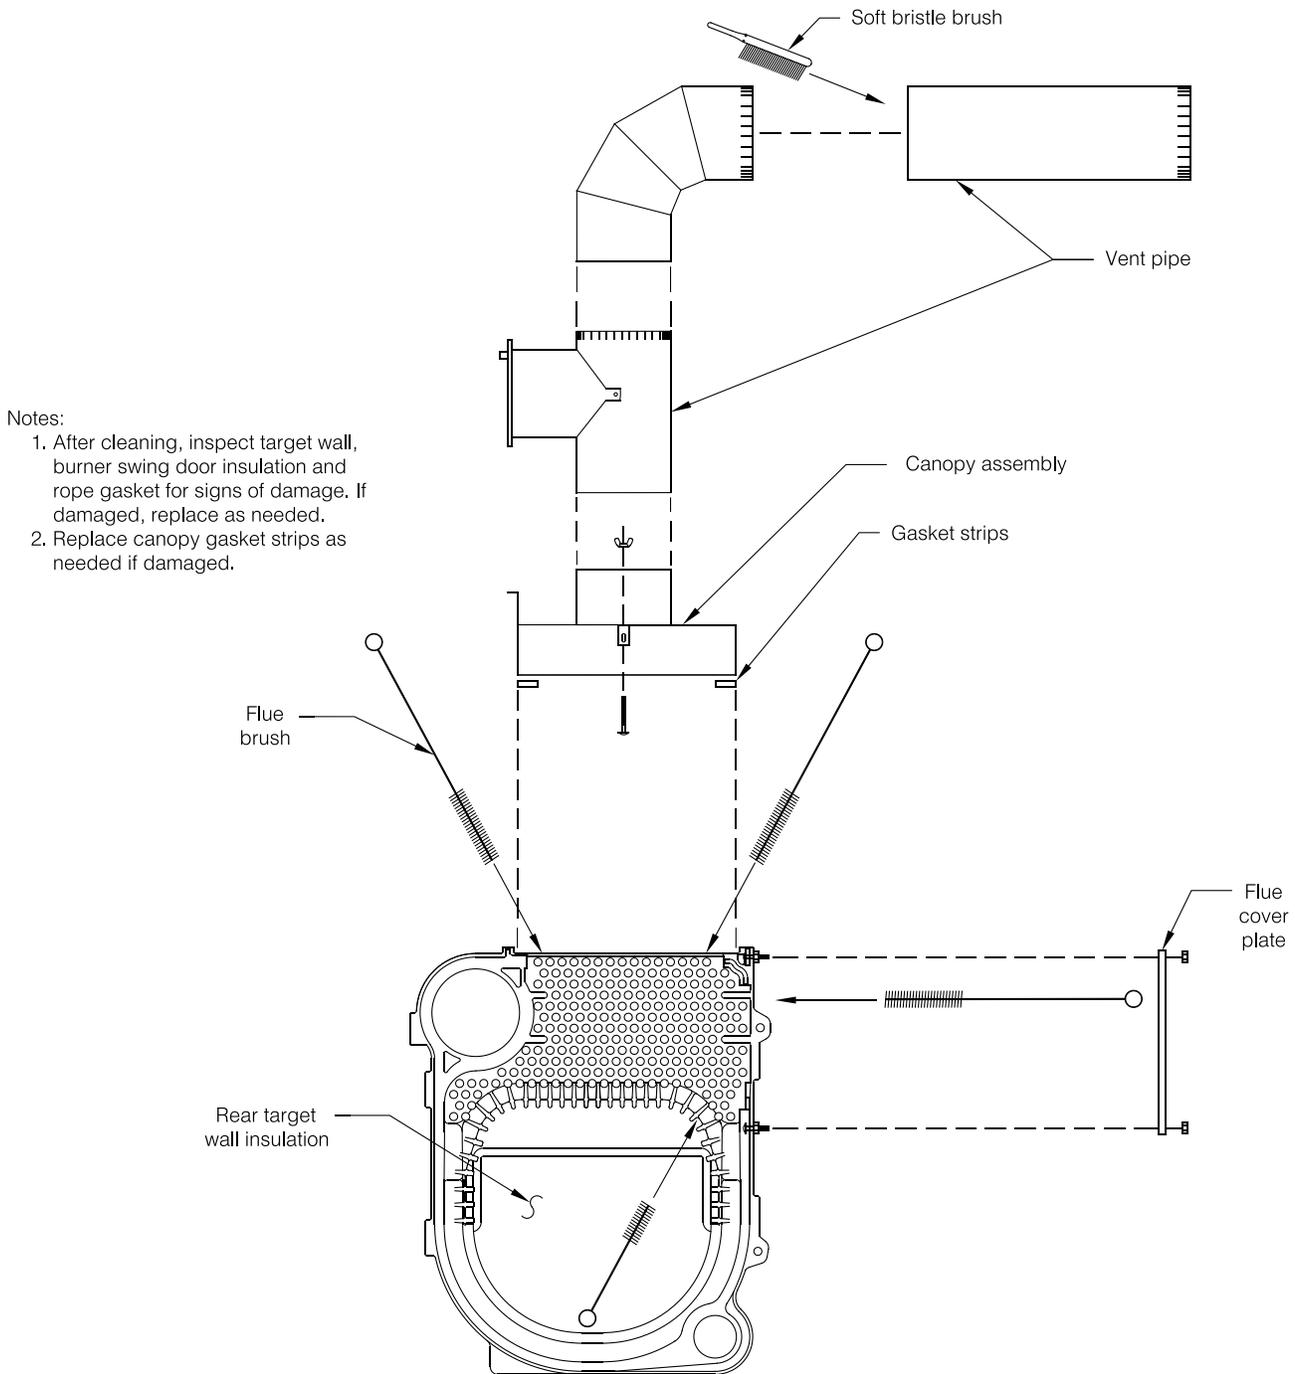

Figure 13-1: Cleaning of Boiler Flueways
A. CLEAN THE FLUEWAYS (See Figure 13-1).
1. For access to combustion chamber remove two (2) 5/16 in. - 18 cap screws, one on the right (1¼ in. long) and one on the left (3¼ in. long). If boiler is equipped with flexible fuel line(s), swing door open.